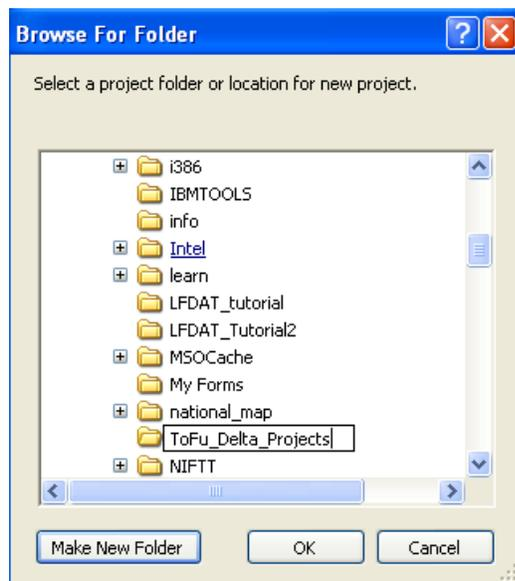

Figure 6-3. Use dialog box to create a project folder.
- The following **Browse For Folder** dialog box will open. Use this dialog box to set the project directory (fig. 6-3).